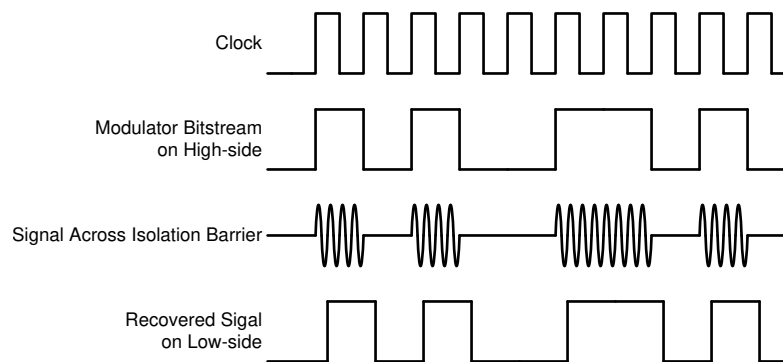

图 7-3. OOK-Based Modulation Scheme
The AMC3306M25 uses an on-off keying (OOK) modulation scheme, as shown in 图 7-3, to transmit the modulator output bitstream across the SiO₂-based isolation barrier. The transmit driver (TX) illustrated in the *Functional Block Diagram* transmits an internally generated, high-frequency carrier across the isolation barrier to represent a digital *one* and does not send a signal to represent a digital *zero*. The nominal frequency of the carrier used inside the AMC3306M25 is 480 MHz.
图 7-3 shows the concept of the on-off keying scheme.